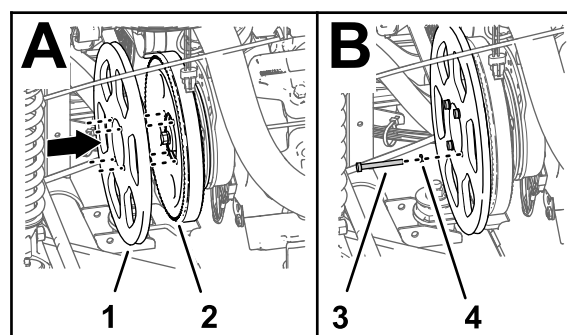

Figure 179
- Align the holes in the pulley for the alternator (kit) with the holes in the pulley for the sprayer pump (Figure 179).